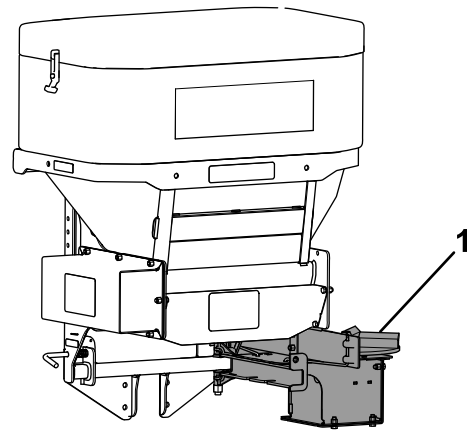

Figure 27
4. Swing the spinner assembly free from the spreader (Figure 27).